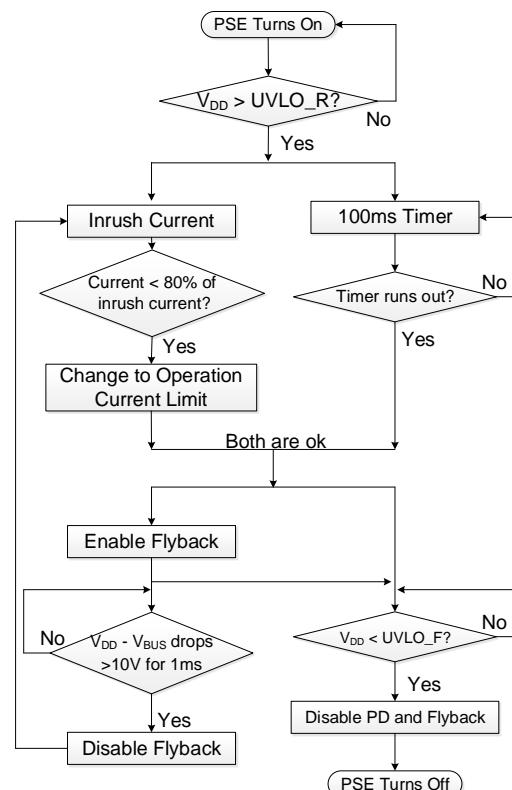

Figure 2: Start-Up Sequence
After a delay (tDELAY) from when under-voltage lockout (UVLO) begins, the MP8017 asserts an internal enable (EN) signal. After the inrush period, the MP8017 goes from start-up mode to running mode. The internal EN signal can enable the flyback converter internally (see Figure 2).
Figure 2 on page 18 shows the sequences for the current limit and internal EN signal during start-up from the PSE's power supply.